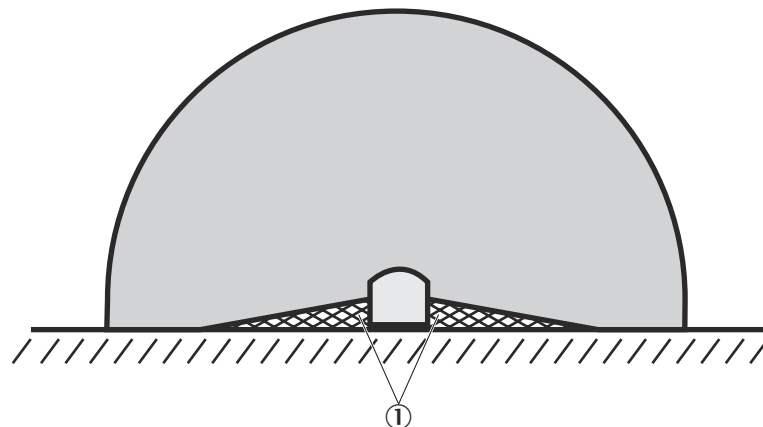

Figure 28: Mounting with deflector plates (example)
- Make the undercut ① sufficiently deep that it completely covers the area not protected by the safety laser scanner (see figure 28) and so that it is not possible to stand behind the unsecured areas.
- Prevent crawling beneath the undercut by making the height of the undercut ② sufficiently small so that no one can crawl under it.